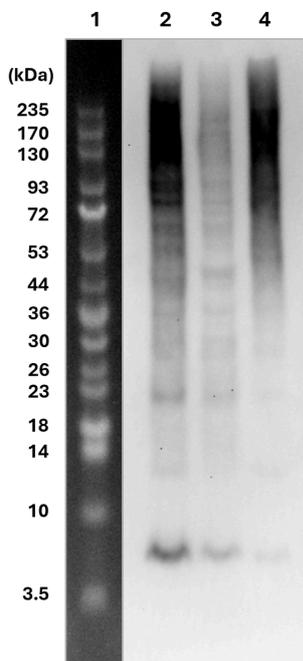

Figure 1. Immunoprecipitation Using Mammalian Cells
Using eluted fractions obtained from the same immunoprecipitation assay as described in Figure 1, three PVDF blots were prepared, each employing a different combination of blocking reagent, primary antibody, and secondary reagent (see lane descriptions below). Ubiquitinated proteins were detected on each blot using the ECL method. Notably, in lanes 3 and 4, in addition to the ubiquitinated proteins, the Anti-Pan Ubiquitin Monobody, Biotin dissociated from the streptavidin beads was also detected (arrowhead), highlighting differences in signal patterns depending on the detection system.
(B) Immunoprecipitation, SDS-PAGE, and western blotting were performed following the same protocol as in Figure 1, except that no dilution was applied to the eluted fractions.